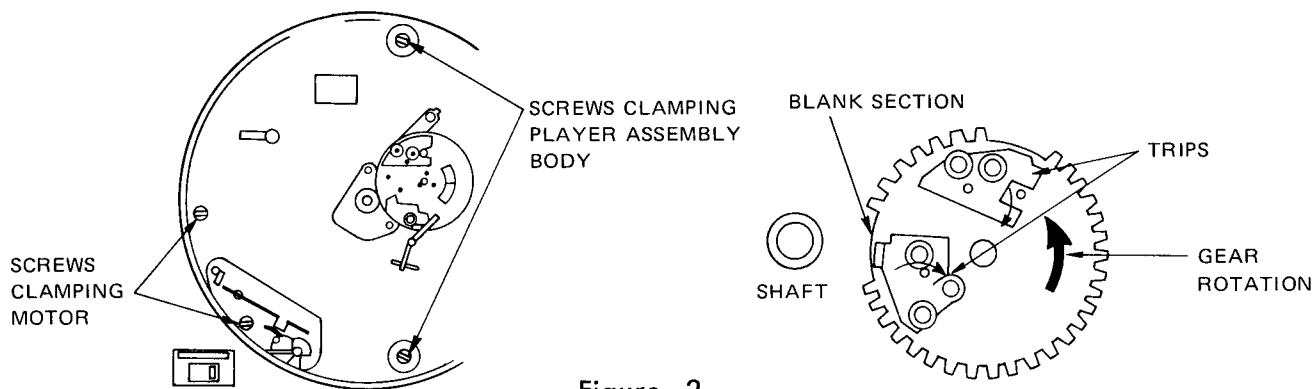

Figure 2
1. Loosen the screws clamping the player body, so that the body "floats" on the springs underneath. Remove the screws clamping the phono motor with a screwdriver or a coin. See Figure 2 for the locations of the screws.
2. Set the blank section of the center gear opposite the turntable shaft by manually rotating the gear. Push the trips of the gear inward as shown in Figure 2.